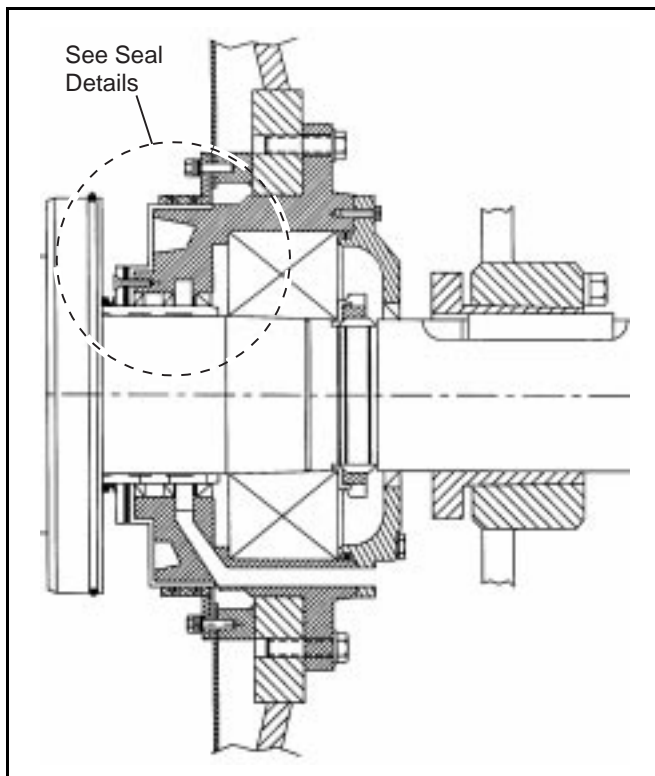
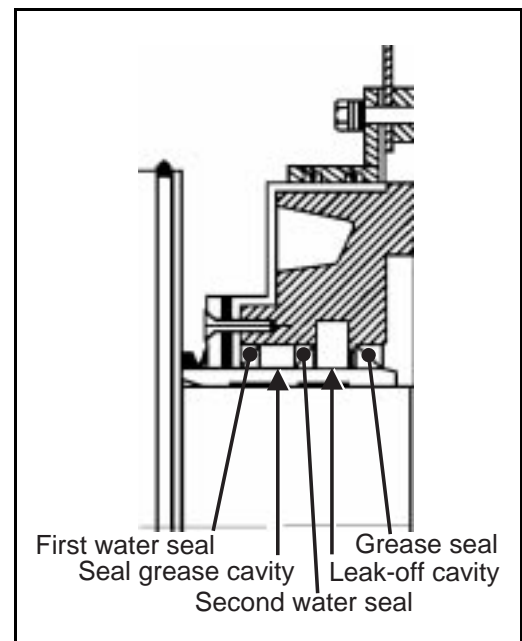
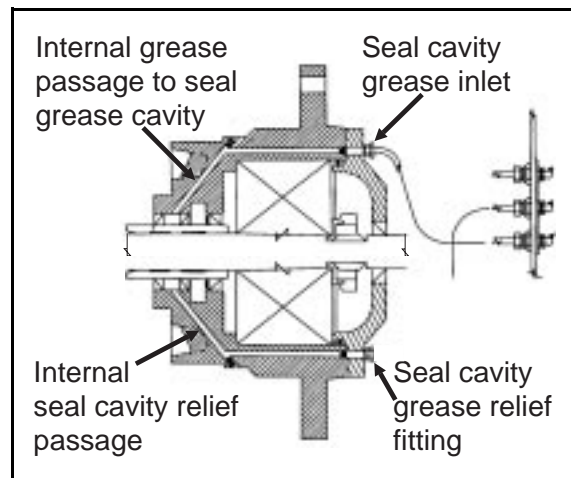

FIGURE 1 (MSSM0271AE) — Typical Bearing Housing for 52 through 72 Washer-Extractors
FIGURE 2 (MSSM0271AE) — Seal Details
FIGURE 4 (MSSM0271AE) — Internal Seal Grease Cavity Passage and Relief
Background Information—The grease filled bearing housings for 52 inch and larger machines are supplied with two water seals and a grease seal as shown in FIGURES 1 and 2. Bath liquor is prevented from entering the bearings by two water seals separated by grease filled cavity (FIGURE 2). Any water leaking past the water seals is drained by the leak-off cavity. The grease seal retains the grease in the housing. The seal grease cavity and the leak-off cavity can become clogged with lint and debris, resulting in seal and bearing failure. Every six months, flush out these cavities with mineral spirits, as described within. Normally, flushing is done less often than greasing. However, whenever flushing is due, it should be done just prior to greasing, during the same maintenance session.
3. Remove the seal cavity grease relief fitting (if so equipped) to prevent the mineral spirits and contaminated grease from being pushed back into the shell under the first water seal. FIGURE 4 shows the internal passage from the seal cavity grease inlet to the seal grease cavity (FIGURE 2) and the internal seal cavity relief passage from the seal grease cavity to the grease relief fitting (if so equipped) on the housing.